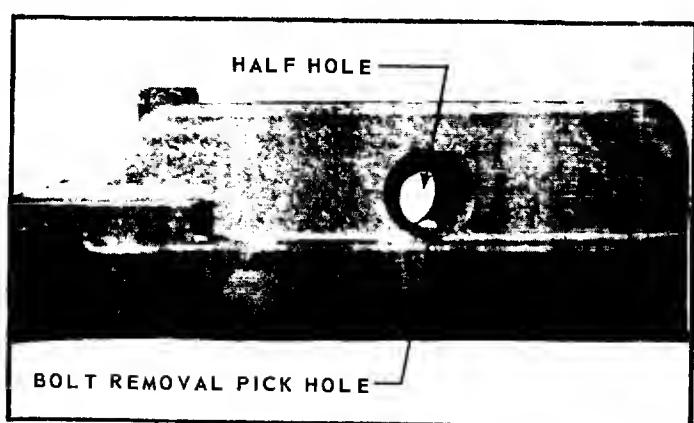

FIG. 3
2. Slide the BOLT towards the locked or bolt extended position until the HALF HOLE appears. (See Fig. 3)